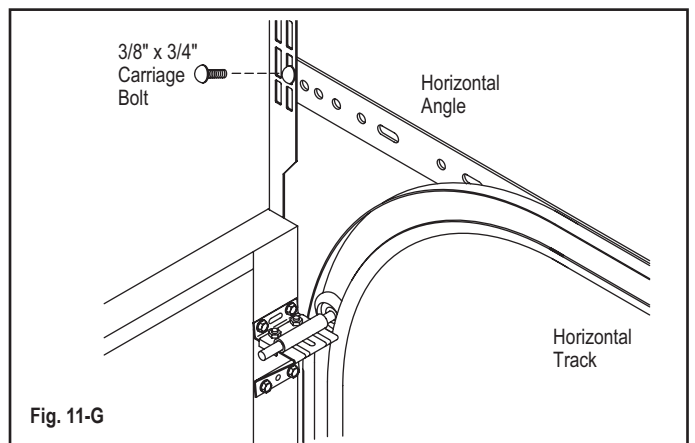

Fig. 11-G
- Use 1-1/4" × 1-1/4" punched angle, at least 13 gauge or 3/32" steel to make two rear track hangers with sway braces (Fig. 11-H).